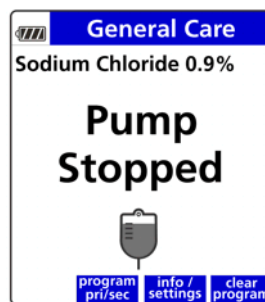

Figure 43. Pump Stopped Screen.
6. On the Pump Stopped screen, press the **program pri/sec** soft key. See Figure 43. The Setup screen appears.